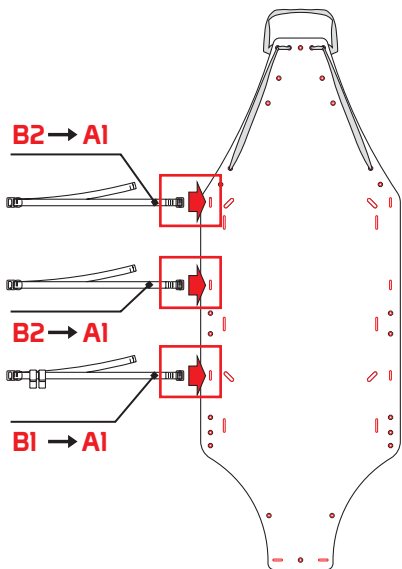

Fig.11
- Insert the slings (B1 and B2) in the A1 eyelets in the support surface (fig. 11).